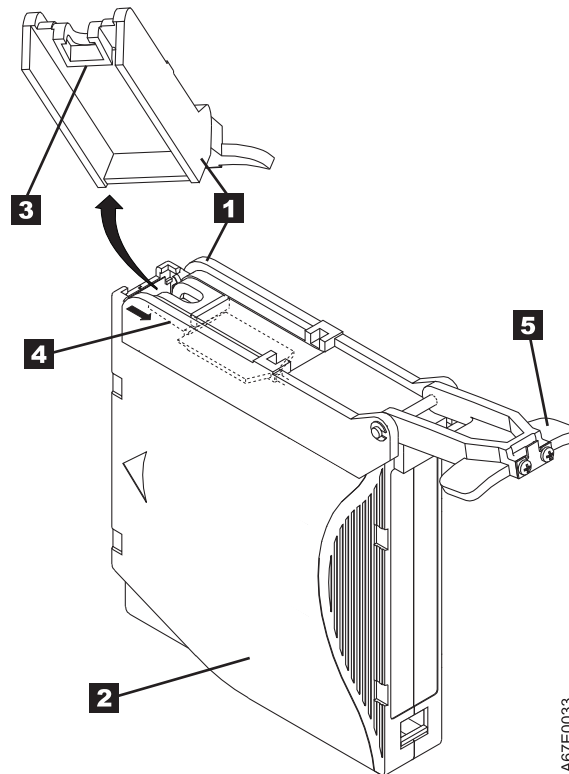

Figure 48. Attaching the leader pin attach tool to an LTO tape cartridge. To hold the cartridge door open, hook the tool into the door and pull the tool back.
1. Attach the leader pin attach tool (**1** in Figure 48 on page 161) to the cartridge **2** so that the tool's hook **3** latches into the cartridge's door **4**. Pull the tool back to hold the door open, then slide the tool onto the cartridge.